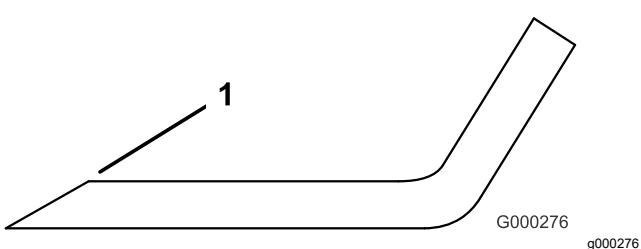

Figure 84
1. Use a file to sharpen the cutting edge at both ends of the blade (Figure 84).
**Note:** If the blade is not balanced, file some metal off the end of the sail area only (Figure 84).